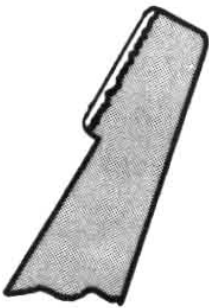
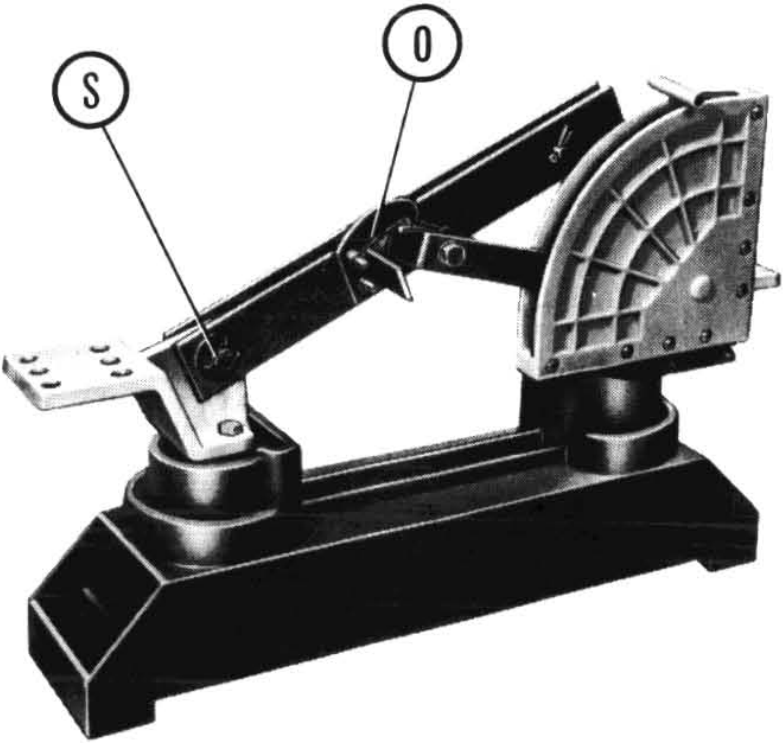
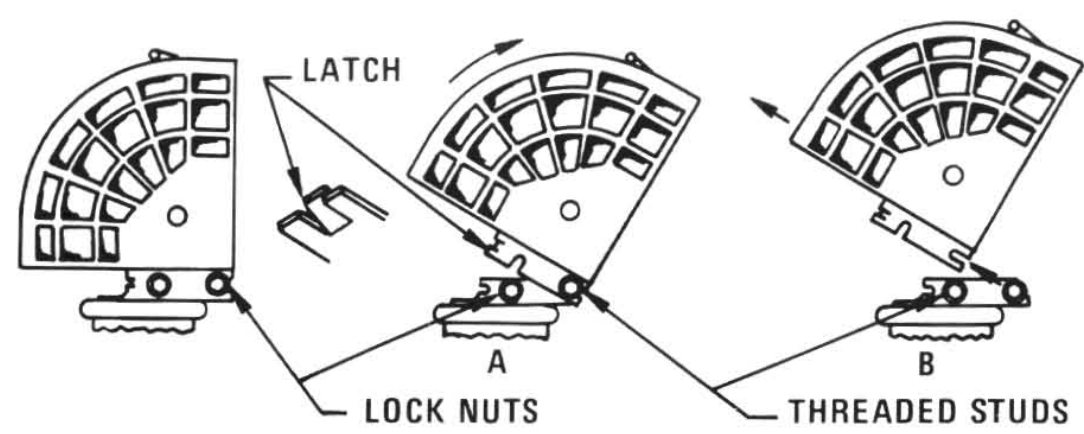
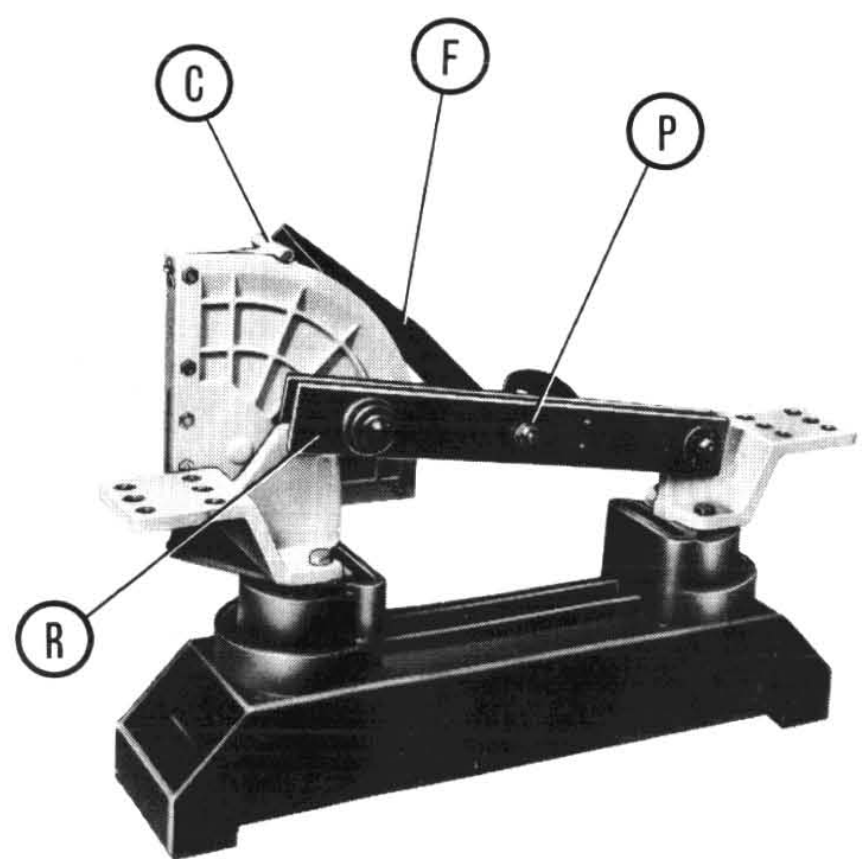

Fig. 27 End of auxiliary quick-break blade showing erosion at acring tip
Fig. 28
Fig. 29 Progressive steps in arc-chute removal
Fig. 30
This inspection can best be performed with the switch in the open position and noting the condition of the quick-break blade (F), Fig. 30.
If the quick-break blade shows bad erosion, Fig. 27, the arc chute and quick-break blade should be replaced. To replace arc chute, loosen locknuts holding arc chute to support, (Fig. 29), pull arc chute away from switch base, rotating away from hinge and remove. Discard and replace with new unit. To replace quick-break blade, remove bolt (P) (Fig. 30).
Operate switch to check on opening. To do this, disconnect the plastic drive link from the blade on 5 kV and at back drive shaft on 15 kV. On opening, the quick-break blade should not release until its hinge end makes contact with latch hook (O) (Fig. 28). On closing, the quick-break blade should not leave Flipper (C) (Fig. 30) until the jaw and blade have made contact at (R).
Should it ever be necessary to adjust the hinge contact pressure, open switch, then tighten pressure adjusting nut (S), Fig. 28 one-half turn at a time. Move blade back and forth 90° to centerline of base to observe its contact with the hinge. The blade should be moderately snug against both sides of hinge at all times. Use thin shim to check for blade contact. No adjustment is required on jaw contact.